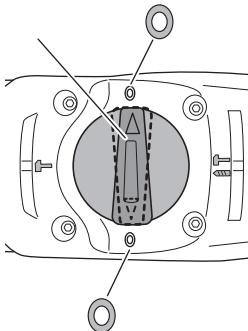

Fig. 9
(2) When fixing working positions of tools such as cold chisel, etc.,
- (a) Turn the selector lever. Align ▲ of the selector lever and ○ of the crank cover as illustrated in Fig. 9.